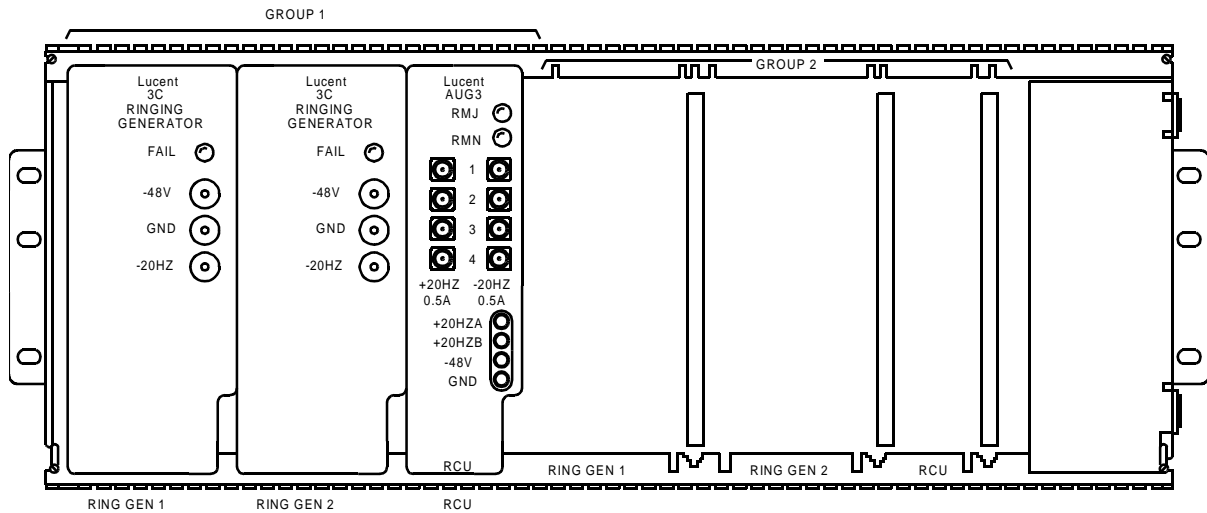

Figure 4-1. Partially Equipped J1C182BC-1 Remote Terminal Ring Shelf
6. Install one **3C() RINGING GENERATOR** into **GROUP 1** side - **RING GEN1** slot in ring shelf (Figure 4-1).
12. On **RING GEN1**, connect DMM test leads to **-48V** jack and **GND** jack (Figure 4-1).
15. On **RING GEN1**, connect DMM test leads to **-48V** jack and **GND** jack (Figure 4-1).
18. On **RING GEN1** at **-20HZ** jack and **GND** jack (Figure 4-1), measure DC negative ringing.